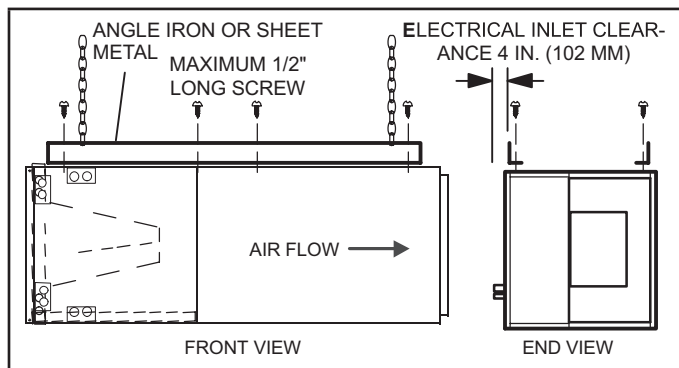

FIGURE 6. Suspending Horizontal Unit
- 5 - If the unit is suspended, the entire length of the cabinet must be supported. If you use a chain or strap, use a piece of angle iron or sheet metal attached to the unit (either above or below) to support the length of the cabinet. Use securing screws no longer than 1/2 inch to avoid damaging the coil or filter. See figure 6. Use sheet metal screws to connect the return and supply air plenums as required.
- 12 - If suspending the unit, it must be supported along the entire length of the cabinet. If using chain or strap, use a piece of angle iron or sheet metal attached to the unit (either above or below) so that the full length of the cabinet is supported. Use securing screws no longer than 1/2" to avoid damage to coil or filter, as illustrated in figure 6. Connect return and supply air plenums as required using sheet metal screws.
NOTE - Horizontal runs must have an anti-siphon air vent (standpipe) installed ahead of the horizontal run. See figure 6. An extremely long horizontal run may require an oversized drain line to eliminate air traps.